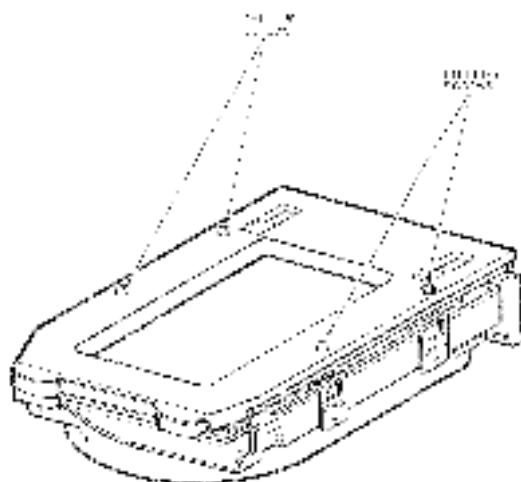

Figure 2-23 Drive End Plate
3. Use a Phillips screwdriver to remove the four screws that hold the drive end plate with an attached ground clip to the base casting (Figure 2-23). Then, remove the drive end plate.